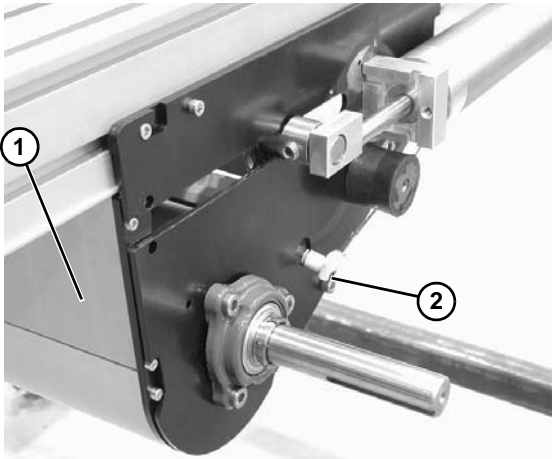

Figure 102
3. Temporarily support the tensioning roller guard (**Figure 102, item 1**). Remove screws (**Figure 102, item 2**) on both sides of center drive and remove tensioning roller guard (**Figure 102, item 1**) and (**Figure 103, item 2**).